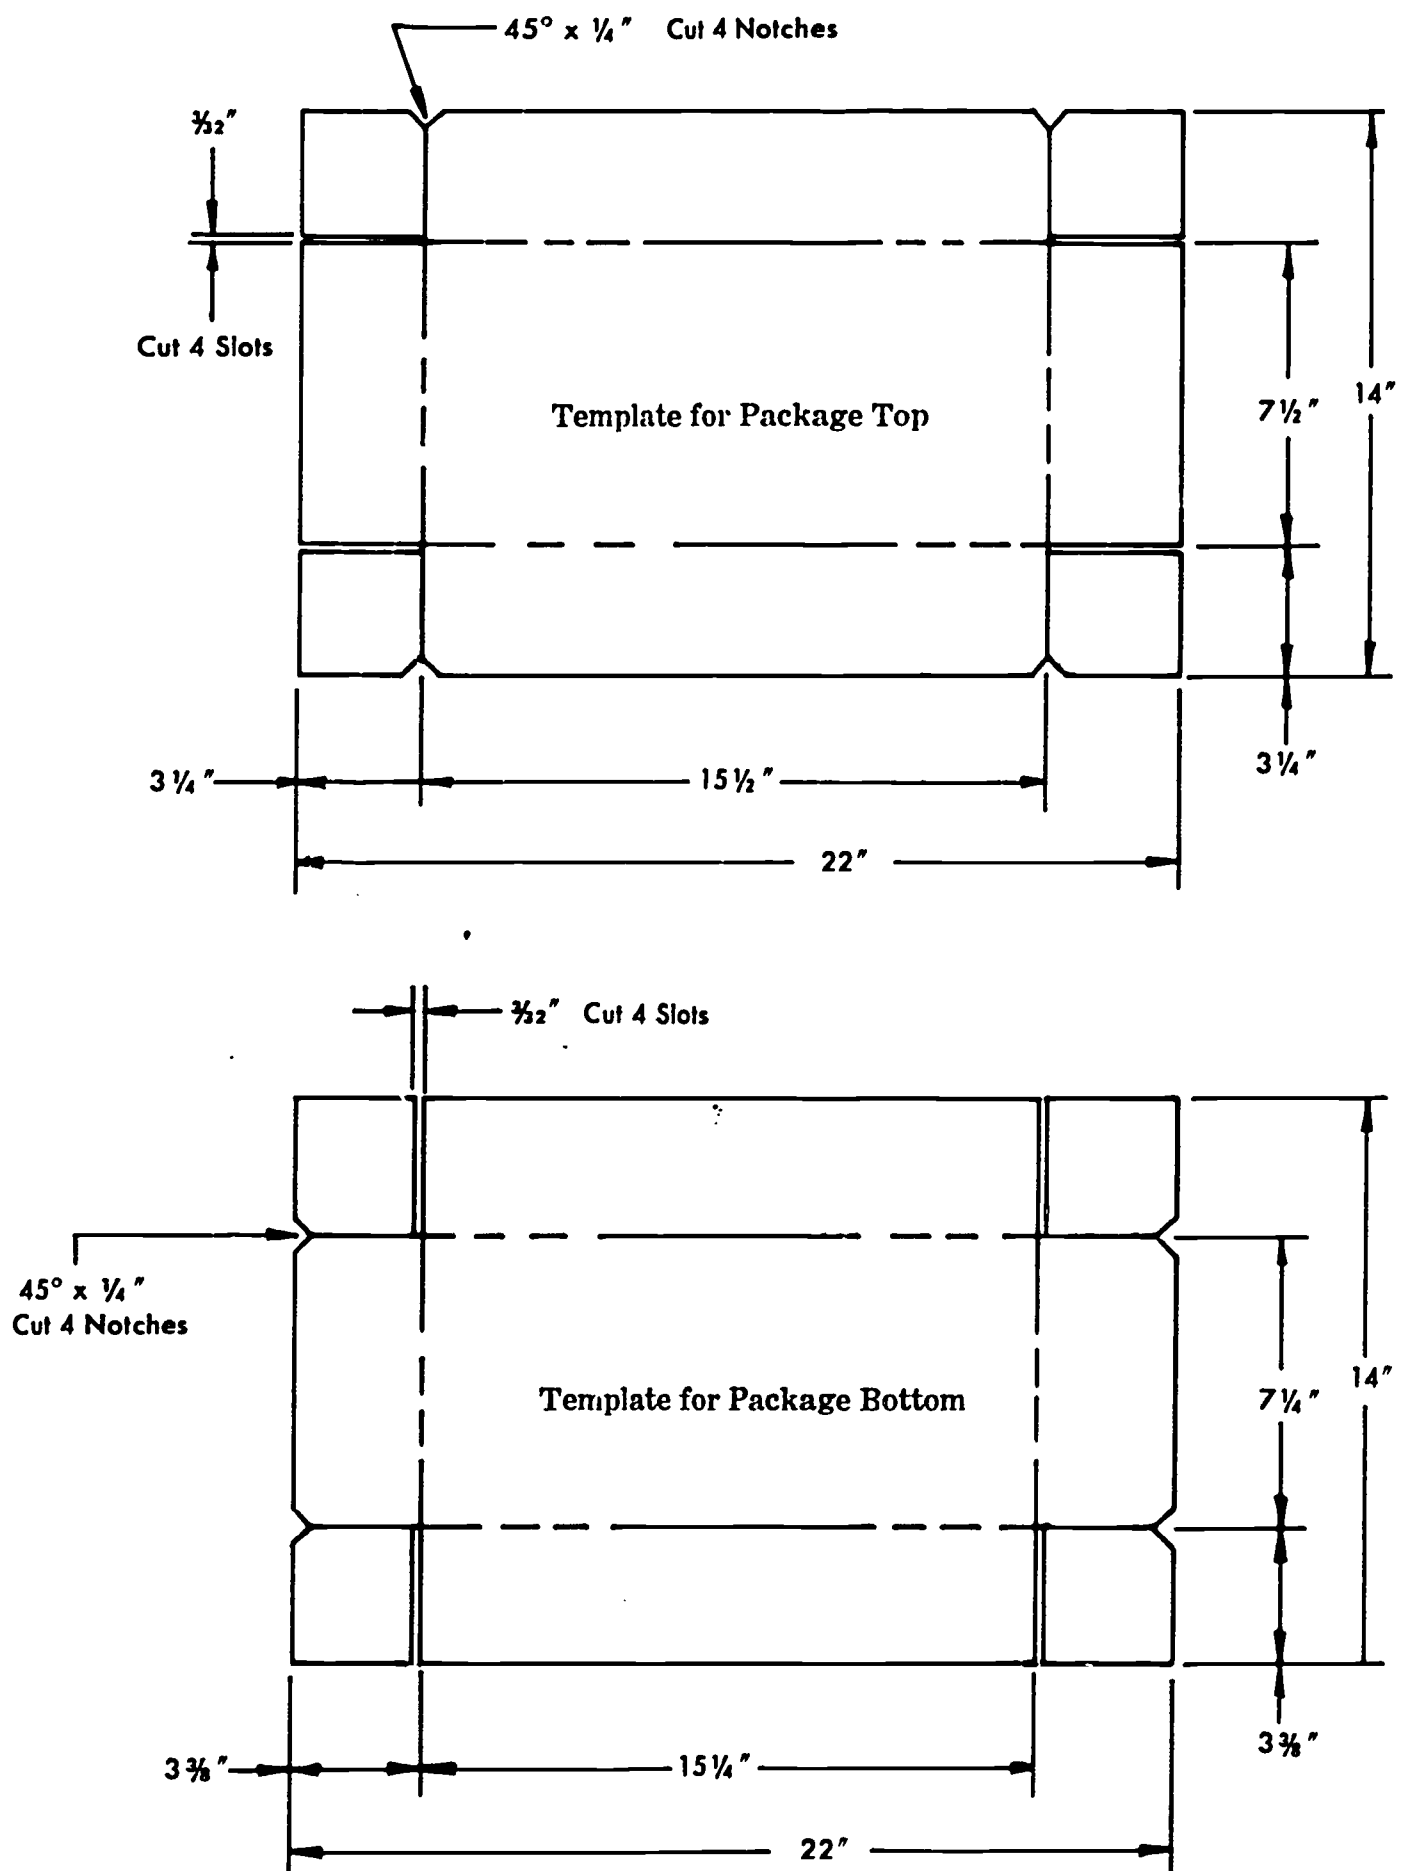

Fig. 169-4. Package Templates
8. There is a $\frac{1}{4}$ " difference in length and width for the top and bottom of templates. See Fig. 169-4. It needs to be only $\frac{1}{4}$ " for oak tag. A larger difference works best for chipboard and "thicker" stock.